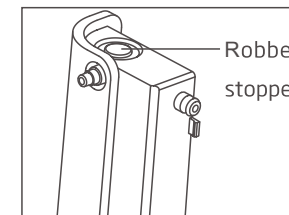

Figure 9
- (2) Remove the rubber stopper (Figure 9).